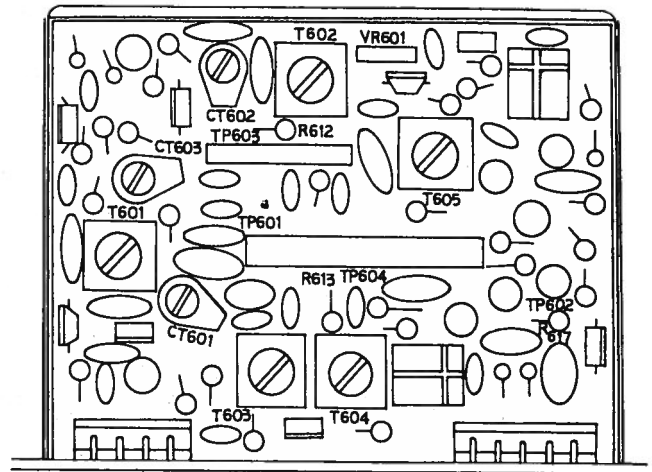
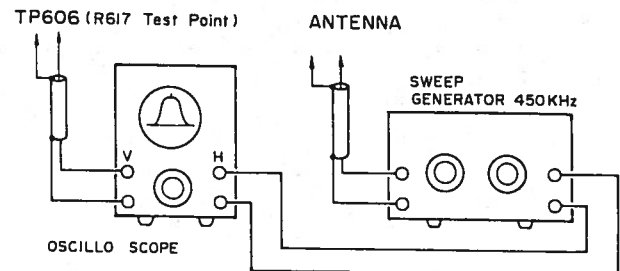

Figure 1
Figure 3
1. Connect the frequency counter to T601 and ground. (See Figure 1)
1. Connect the AM sweep generator's output to the antenna receptacle (no antenna pad is necessary), and the oscilloscope's vertical axis to TP602 (R617 test point). (See Figure 1 and Figure 3)
4. Align T604 and T605 to obtain a maximum and symmetrical curve. (See Figure 1 for locations of T604 and T605.)
2. Connect a DC voltmeter across TP603 (R612 test point) and ground. (See Figure 1)